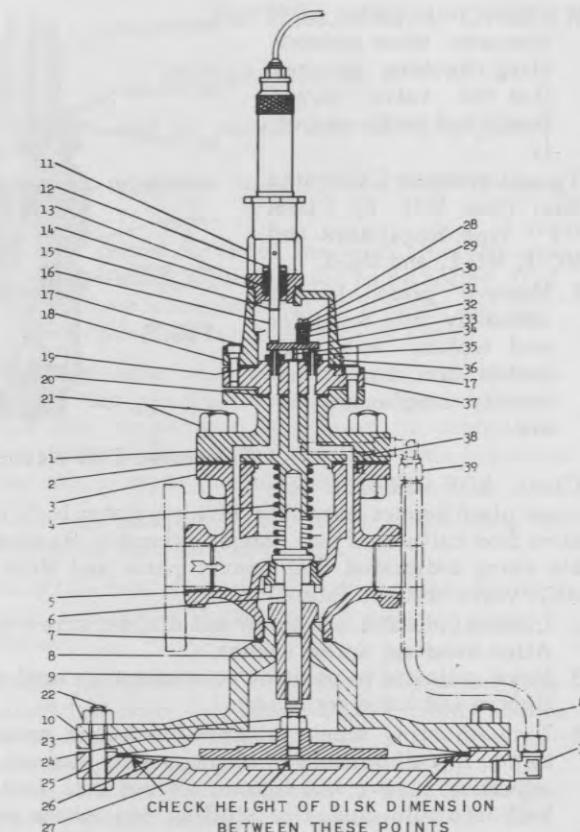

FIG. 3 1/2" to 1-1/2" Classes TM and TKM
- Classes TM, TMK, etc. Assemble bottom cap with bottom cap gasket on main body. Insert stem and disc to which it is attached. Adjust height of the disc so that with main valve closed, the diaphragm disc is  $5/64" - 7/64"$  above diaphragm face on diaphragm base. See Fig. 3.
2. Remove cap screws (17) holding pilot flange (37) to top cap. See FIG. 3.